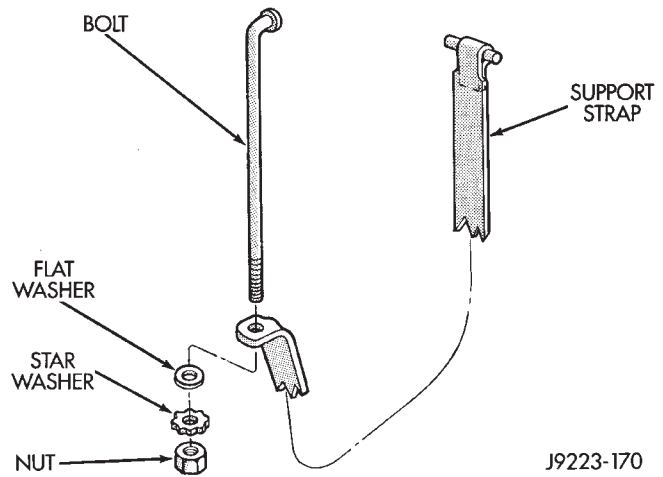

Fig. 8 Fuel Tank Support Strap—XJ Vehicles
(1) If equipped, position a support under skid plate.
(2) If equipped, remove the bolts that attach skid plate to underbody side rails.
(3) If applicable, remove the support and skid plate from fuel tank.
(4) Support fuel tank.
(5) Loosen nut from fuel tank support strap bolt to allow bolt head to be removed from hole-slot in frame member (Fig. 8).